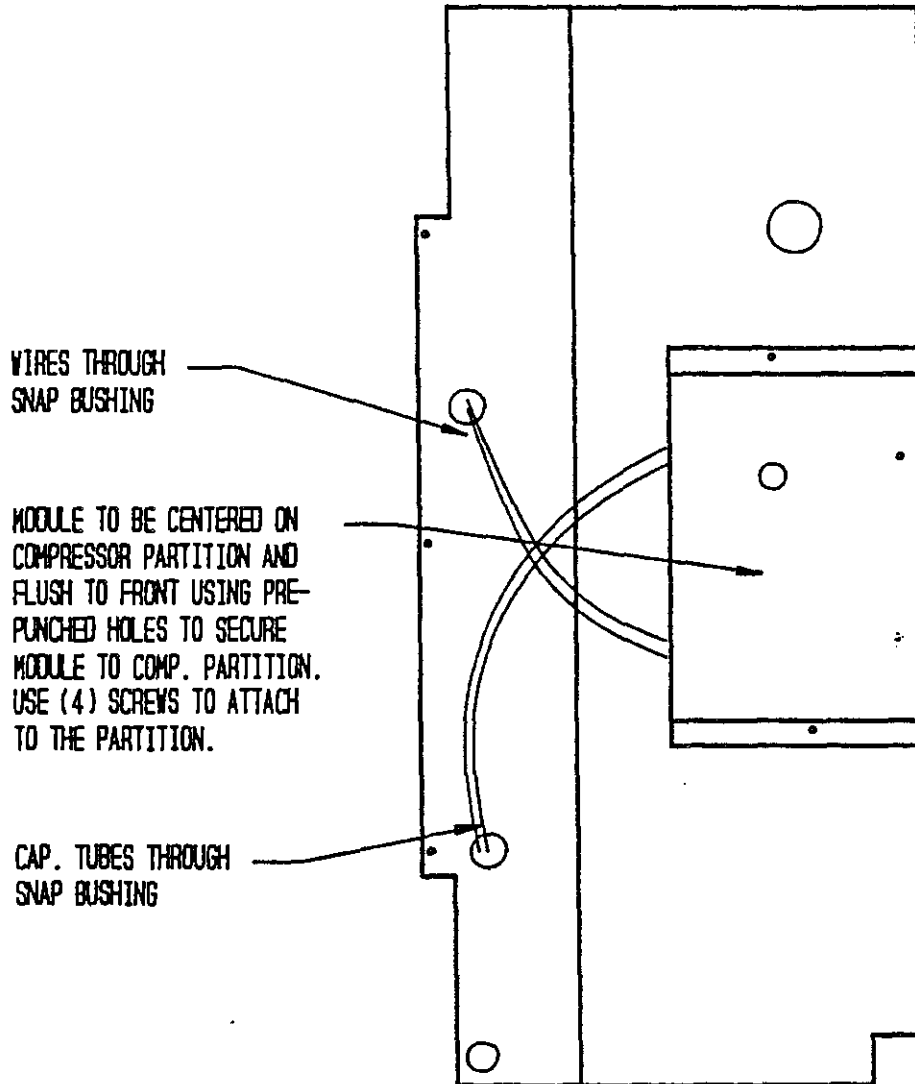

Figure 2.
Install the basic control enclosure centered on the compressor partition above the control panel (see Figure 2). Secure the control enclosure to the compressor partition with (2) #10-16x1/2 screws provided in hardware bag.